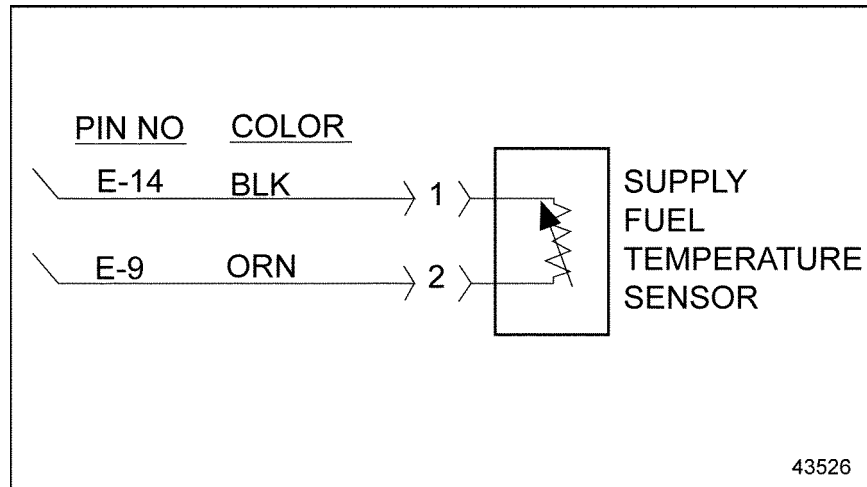

Figure 28-4 Supply Fuel Temperature Sensor
5. Check terminals at the FTS/SFT Sensor harness connector (both sensor and harness side) for bent, corroded, and unseated pins or sockets. See Figure 28-4.